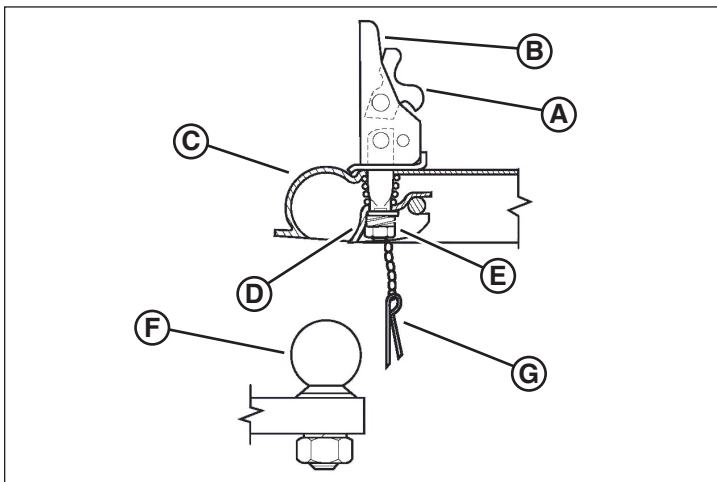

Figure 6
1. Pull the locking trigger (A, Figure 6) upward and lift the locking lever (B, shown lifted).
2. Adjust the coupler to the hitch ball (F, Figure 6) by pushing the channel lock (D) up, away from the adjusting nut (E).
4. Make sure the hitch ball is completely engaged in the coupler socket (C, Figure 6).
5. Push the locking lever down into the locked position. Insert the locking pin (G, Figure 6) into the hole in the locking lever, or use a padlock for added security.